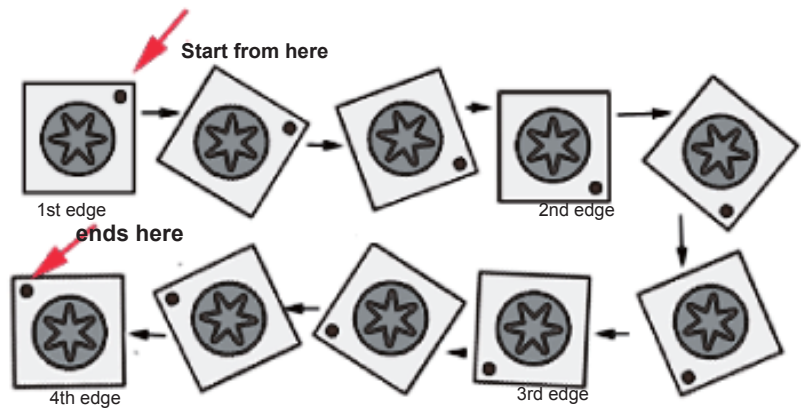

Fig. 3- insert installation
5. Rotate the insert 90 degree clockwise or put a new carbide insert at the "start" position as per Fig 3. Put the screw in the hole, turn the screw down with your finger.